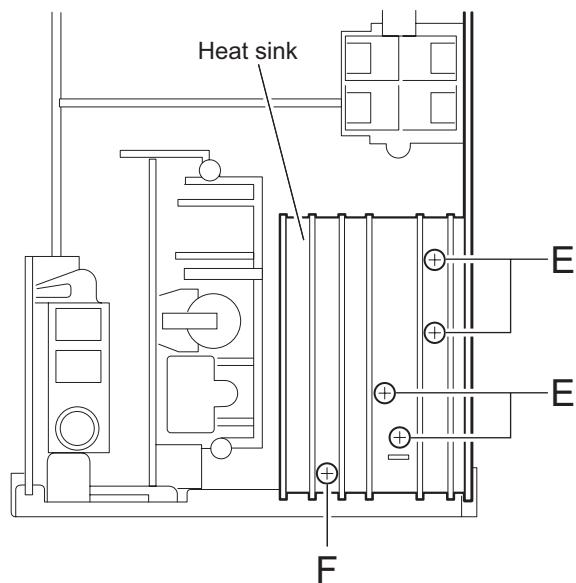

Fig.8
2.1.4 Removing the power amplifier board and heat sink (See Fig.8~10)